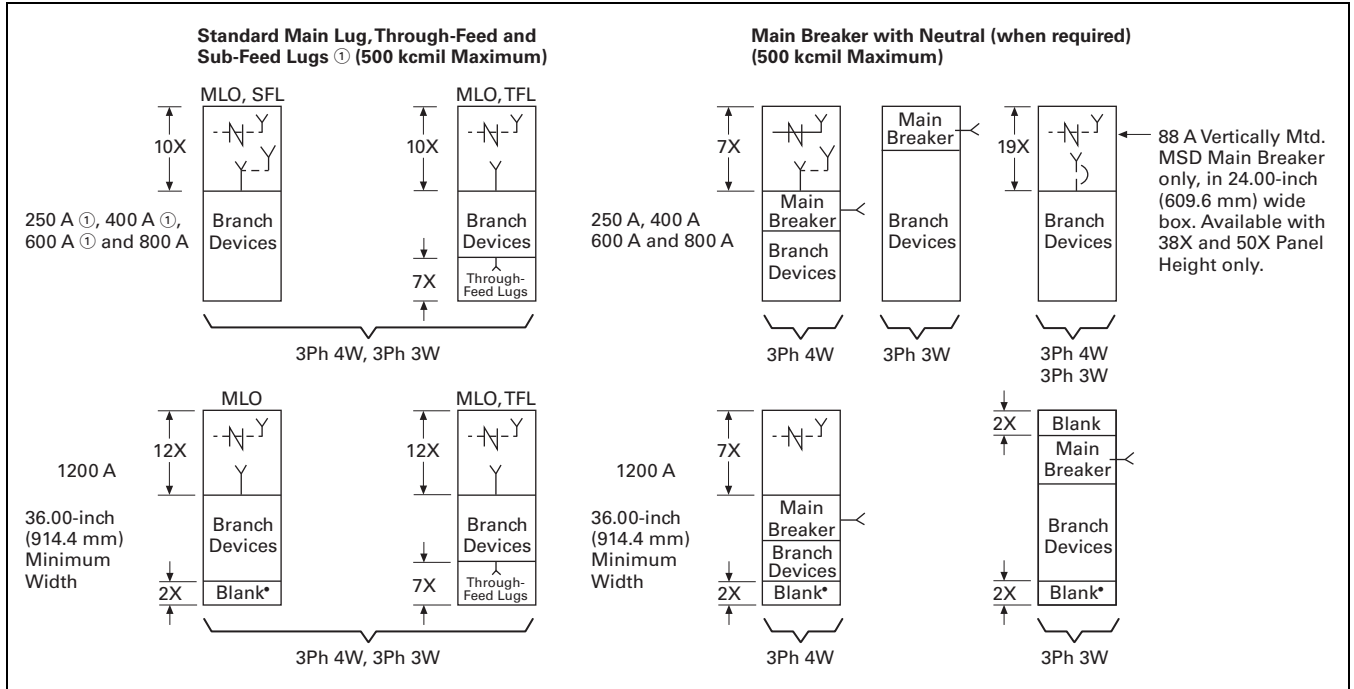

Figure 22.4-1. "X" Space Requirements—Dimensions in Inches (mm)
- ③ BAB and QBHW breakers with shunt trips require one additional pole space, i.e., single-pole is two-pole size, two-pole is three-pole size, and three-pole is four-pole size.
- ④ If panel contains only BAB or QBHW branch breakers, use a PRL1a panelboard.
- ⑤ GHB, HGHB or GHQ breakers cannot be mixed on same subchassis as BAB, QBHW.
- ⑥ If panel contains only GHB, HGHB or GHQ branch breakers, use a PRL2a panelboard.
- ⑦ When only one single-pole breaker of the group is required on either side of chassis, the single-pole breaker space required changes from 1X to 2X.
- ⑧ Minimum 36.00-inch (914.4 mm) wide box is required if optional #6–300 kcmil lug is required.
- ⑨ MDL main breaker in 24.00-inch (609.6 mm) wide box, refer to **Figure 22.4-1**.
- ⑩ Optional 750 kcmil terminal requires 44.00-inch (1117.6 mm) wide box.